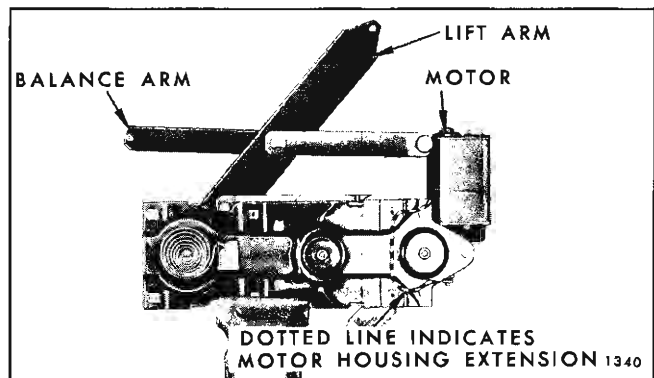

Fig. 2D31—Door Window Regulator and Electric Motor Assembly
2. Drill a 1/4" hole through back plate and sector gear, at a location dependent upon position of lift arm. Do not drill into motor housing (See Fig. 2D31).